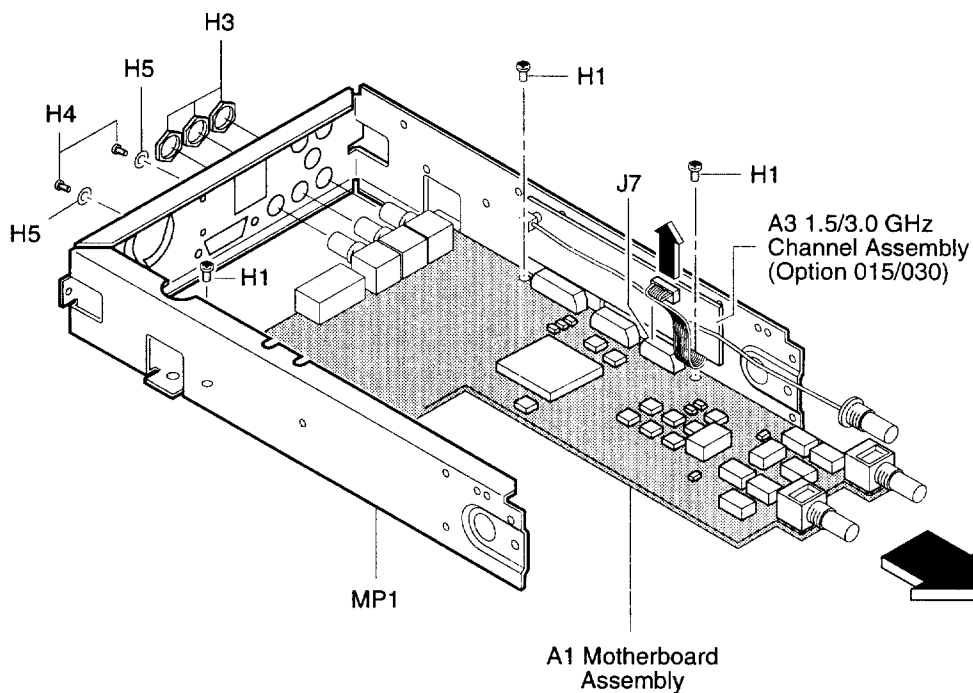

Figure 3-6. A1 Motherboard Assembly Removal
4 If the Counter contains Option 015/030/050 1.5/3.0/5.0 GHz Channel, disconnect the optional channel’s flat-ribbon cable from J7 on A1 Motherboard Assembly as shown in Figure 3-6.
7 Remove the two hex screws (H4), shown in Figure 3-6, on the rear-panel HP-IB connector using the 7-mm spin tight.
- 8 Remove the BNC nuts (H3), shown in Figure 3-6, from the rear of the chassis using the 14-mm deep-socket spin tight (Opt 015/030 only). Remove knurled nut for Option 050.
- 9 Remove the three screws (H1) in A1 Motherboard Assembly as shown in Figure 3-6.